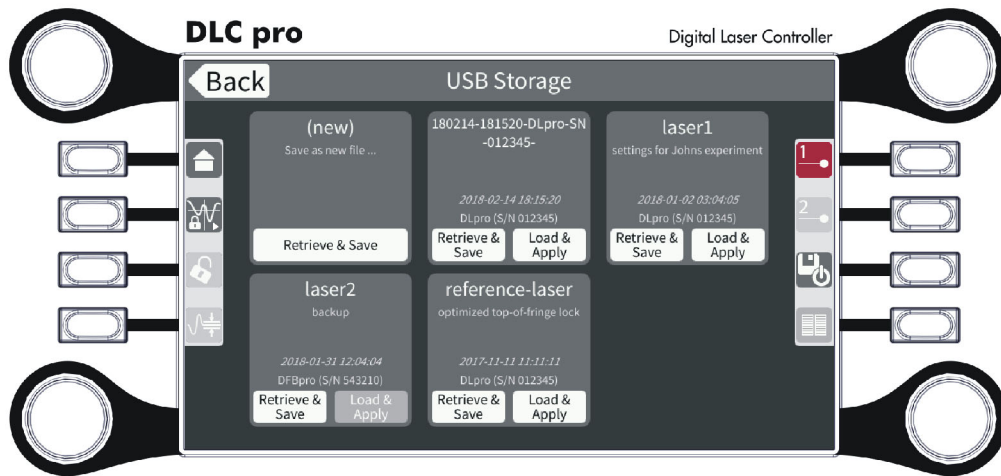

Figure 49 Configuration Manager, USB Storage window
- A section (USB Storage, see Figure 49) for selecting configurations from a USB flash drive connected to the USB connector on the DLC pro front panel.